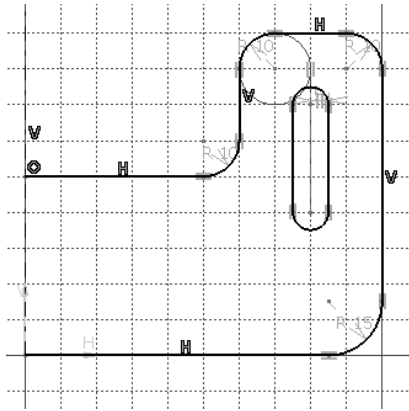

Figure 3-60 The sketch after drawing the elongated hole
- Draw the right half of the sketch using the **Profile** and **Elongated Hole** tools, refer to Figure 3-60.
12. Draw a vertical elongated hole on the right of the sketch using the **Elongated Hole** tool, such that the coordinate value of start and end point is 60,40 and 80,70 respectively. Specify the value of radius as **5** in the **Radius** edit box in the **Sketch tools** toolbar, refer to Figure 3-60.